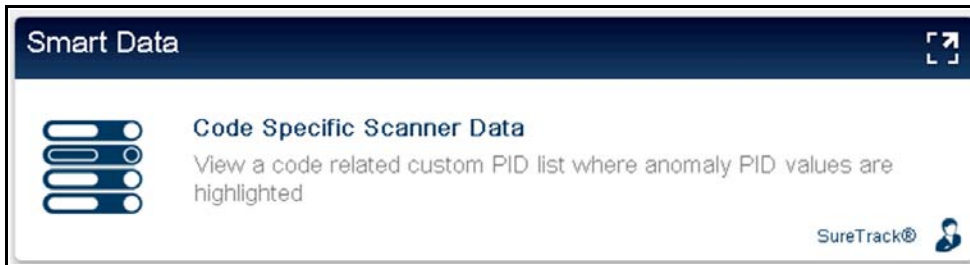

Figure 5-5
2. Scroll down and select the **Smart Data** card (Figure 5-5).